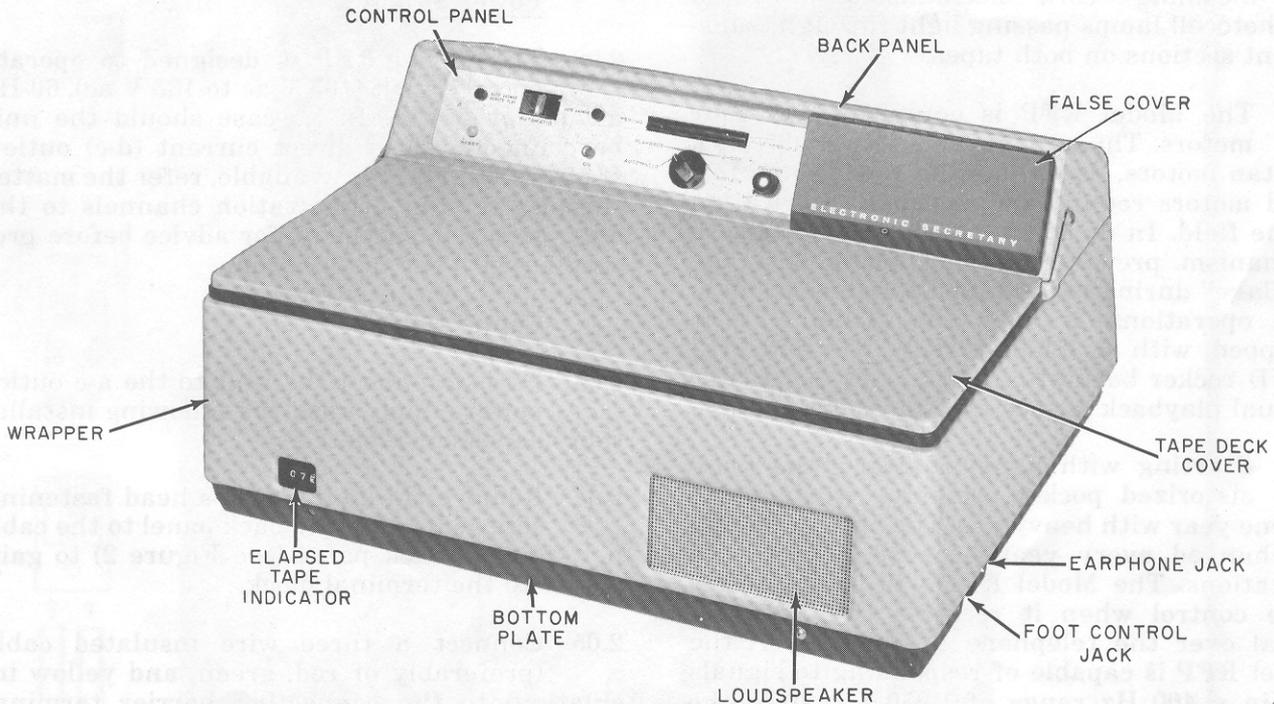

Figure 1. Model RFP (Front view).
1.02 The Model RFP (see Figure 1) is an automatic telephone answering and recording device. This unit is able to answer the telephone with the customer's recorded announcement message, record the caller's message, and play it back to the customer over a telephone connection.